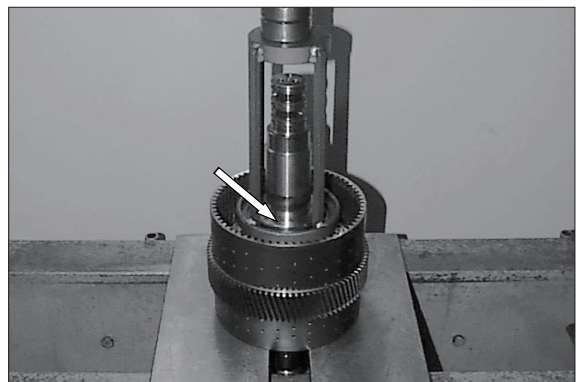

Figure 135
- (7) Lift the disc carrier out of the clamping ring. Preload the compression spring by means of fixture (S) and engage the snap ring into the annular groove of the disc carrier (arrow), see figure 135.